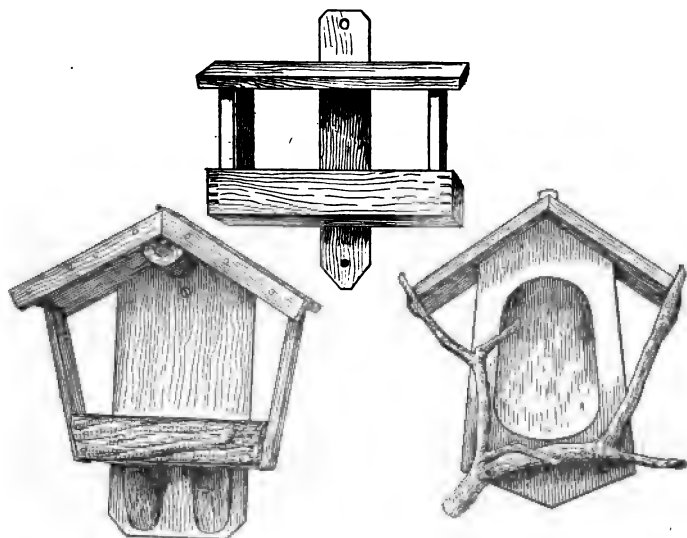

FIG. 87. — Open nesting boxes.
**Open houses.** Other birds which do not nest in cavities will sometimes build their nests in a box, open on three sides like a porch. (See figure 87.) These houses consist of a floor from 6 to 8 inches square with a roof held up by posts at the corners, or the back may be a solid board, leaving three sides open. Birds which have been known to occupy these houses are the robin, phoebe, song sparrow, and catbird. These houses should be put up in locations where these birds usually nest.